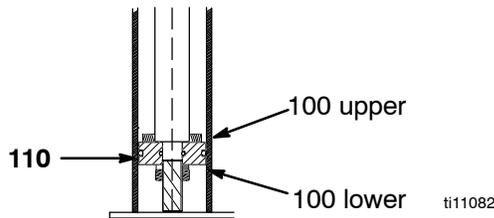

Fig. 6
7. Service the lift-rod piston (Fig. 6):